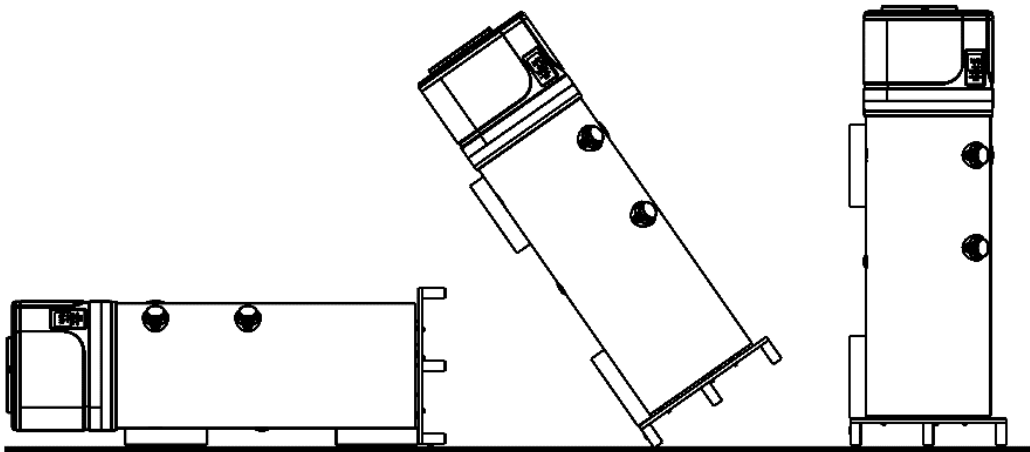

Fig. 2a;
Please follow the described steps below in order to mount three supports (fig. 2a):
- Incline the appliance as per Fig. 2a;